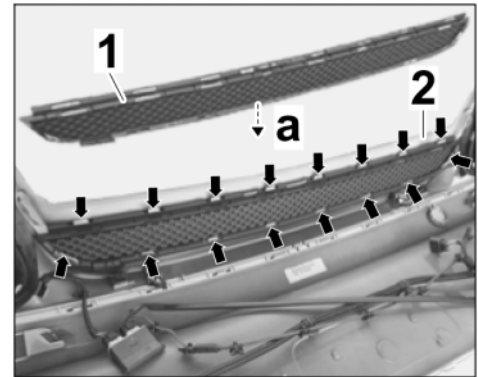

Figure 9
- 2.4.2 Clip new center grille into the new rear skirt (⇒ *Figure 9-a*).
Check that the locking lugs on the rear skirt (⇒ *Figure 9 -Arrows-*) are installed correctly in the center grille.